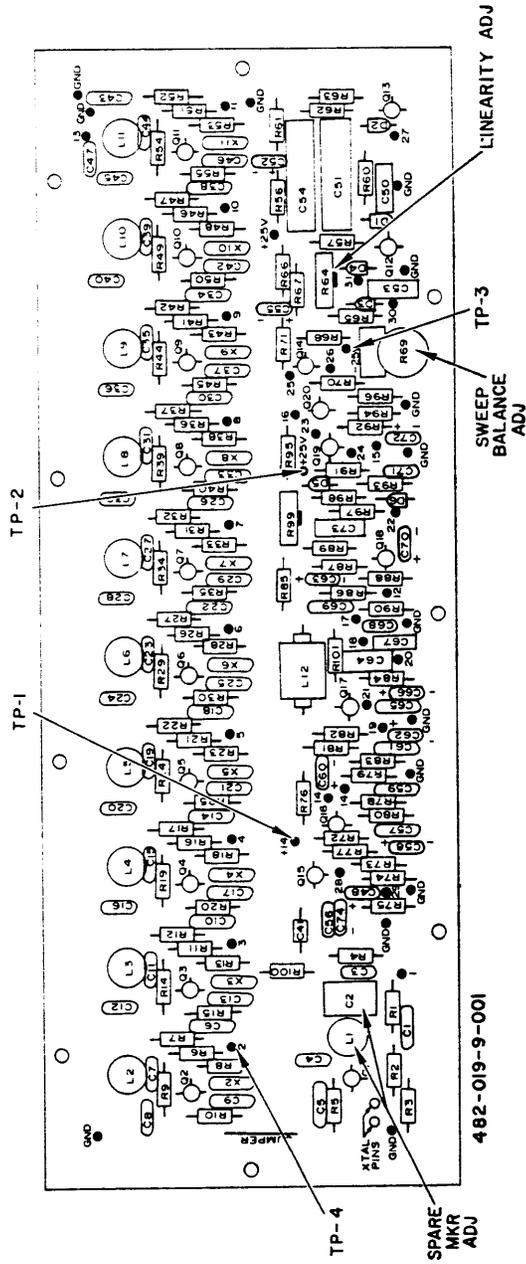

Figure 12.2 Parts Layout for Marker, Waveform Generator, and Pattern Amplifier Board (Viewed from Component Side)
12.4.6.2 Turn on the Model 415 and place the CHROMA switch in the OFF position and place the HORIZ SWEEP switch to the REV position. Connect the VTVM to the center pin of the SCOPE HORIZ INPUT jack and note the peak-to-peak reading on the VTVM. Place the HORIZ SWEEP switch to the NORM position and adjust the trimpot R69 (refer to Figure 12.2) for an equal peak-to-peak reading.
(R64, Figure 12.2)